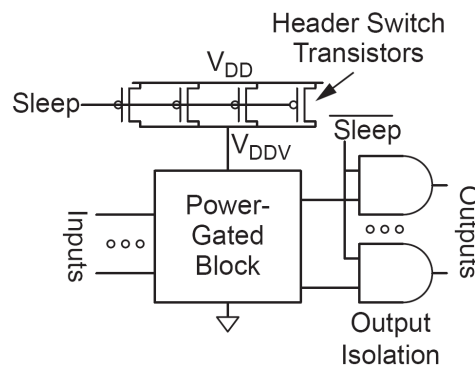

Figure 1. A power-gating arrangement with a pMOS header switch.
In Figure 5.24 in Weste & Harris (repeated below in Figure 1) a pMOS header switch for power gating is seen. Such a switch is used to turn off the static power consumption when a block is not in use. The header switch should be designed such that it does not cause too large an increase in the delay when the gated block is operating. Suppose the pMOS transistor has an ON resistance of $2.5 \text{ k}\Omega/\mu\text{m}$ and the block being gated has an equivalent ON current of 100 mA . V_{DD} is 1.2 V for our process as usual.
- Write down the spans for the nine black and six grey PG cells that are numbered in Figure 1. As an example for the black cell, which is above grey cell number 2, the span is 3:2. See also Figure 11.29 in Weste & Harris (this chapter can be downloaded from the CMOS VLSI web site).
- If we assume just straight lines in the white space at the bottom of the tree in Figure 1, which of the 32 sums cannot be formed from the tree as shown in Figure 1?
- If we (incorrectly) assume that all black and grey PG cell have the same propagation delay (which we call 1 unit delay), which sum(s) will be done last with your solution from task d)? List ALL sums that have this propagation delay. How many PG cells do these longest (critical) paths contain? Ignore the buffers (triangles) shown Figure 1 when you find these paths. It may be helpful to draw the paths in attached schematic and submit it with your solution.